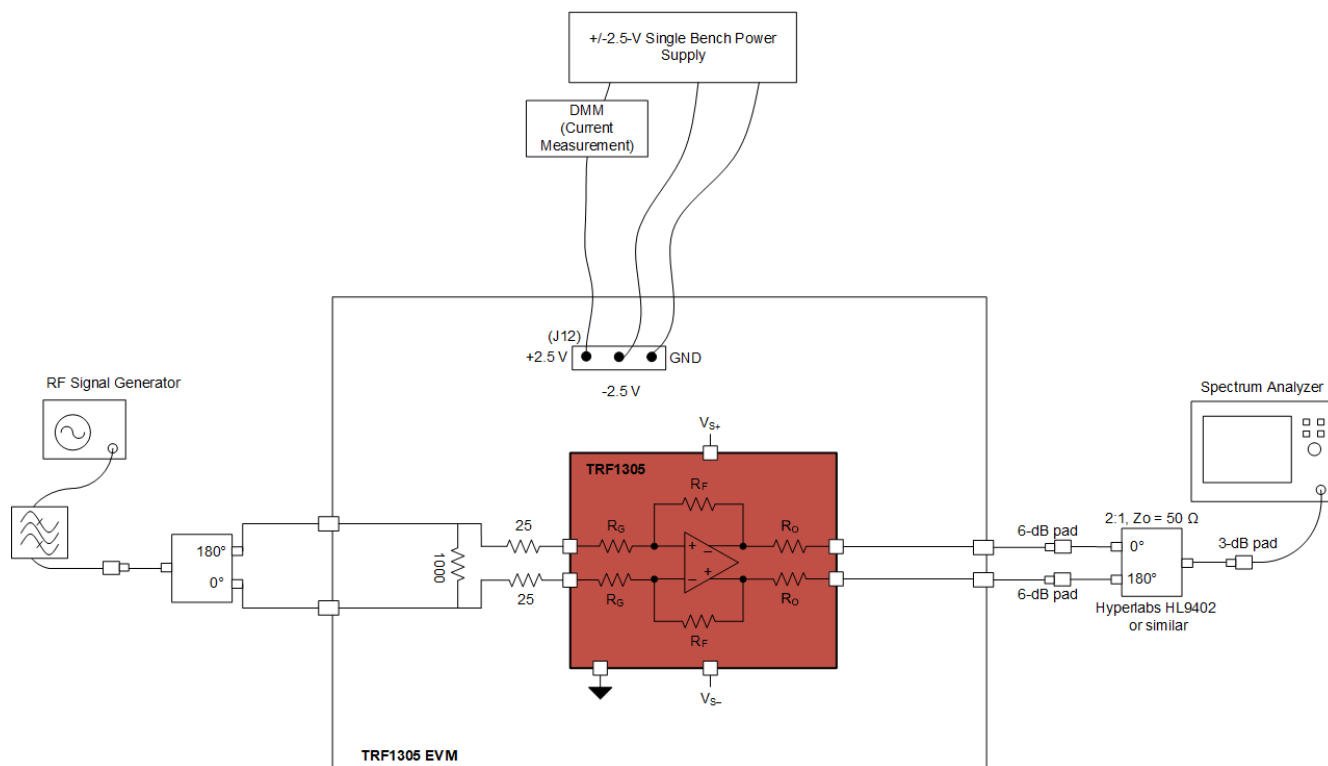

Figure 2-1. Single Tone Setup for Gain and Output P1dB
This section provides general usage information for the EVM. See Figure 2-1 for a general single tone setup diagram as a reference point for the following instructions (some components, such as supply bypass capacitors, are omitted for clarity):
- a. Single ended signal from RF signal generator is converted to a differential signal using an external passive balun as shown in Figure 2-1. Differential signal is fed to input SMA connectors, J1, J2. When measuring single tone distortion, use an RF band pass filter as shown in Figure 2-1.
- e. When connecting to a spectrum analyzer, the differential signal out of the EVM must be converted to a single-ended signal using an external passive balun as shown in Figure 2-1. Usage of an attenuator pad of approximately 3dB to 6dB is recommended at the three terminals of the passive balun to minimize reflections.